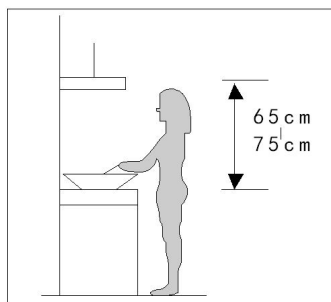

Fig. 3
- Position the hood at 65~75 cm from the cooking surface for safety purposes and a proper operation (Fig. 3).